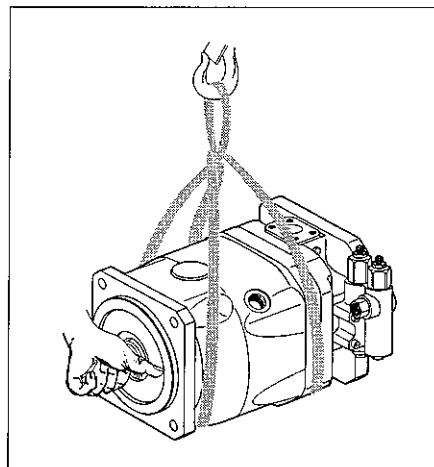

Fig. 23: Transport with lifting strap
- Place the lifting strap around the axial piston unit in such a way that it passes over neither the attachment parts (e.g. valves) nor such that the axial piston unit is hung from attachment parts (see Fig. 23).